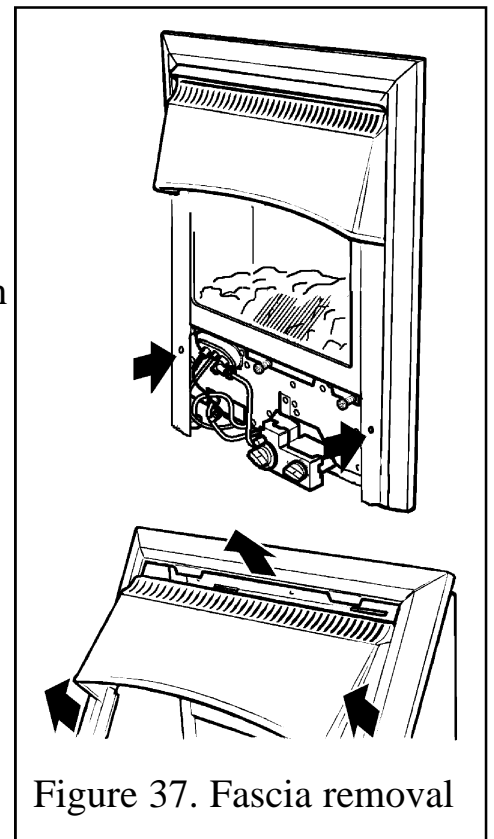

Figure 37. Fascia removal
- Raise the fascia to allow the retaining lugs at the top to clear the slots in the convection box hood and then lift clear (See figure 37). Be careful not to trap the wiring loom when lifting clear.